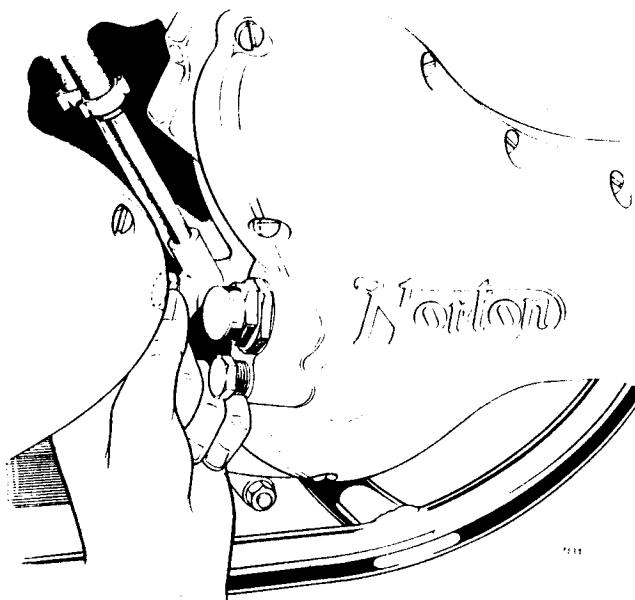

Fig. F1 Removing oil junction block securing bolt
- 30 Place a receptacle of sufficient size to contain the contents of the oil tank below the rear of the crankcases, remove the bolt securing the oil junction block to the crankcases, pull the block and pipes away from the crankcases and allow the oil to drain. Alternatively after parting the junction block from the crankcases, raise the junction block and tie with wire to the airbox to prevent oil draining from the tank, or protect the feed pipe with cardboard and compress the pipe with grips to prevent oil draining (see *Fig. F1*).